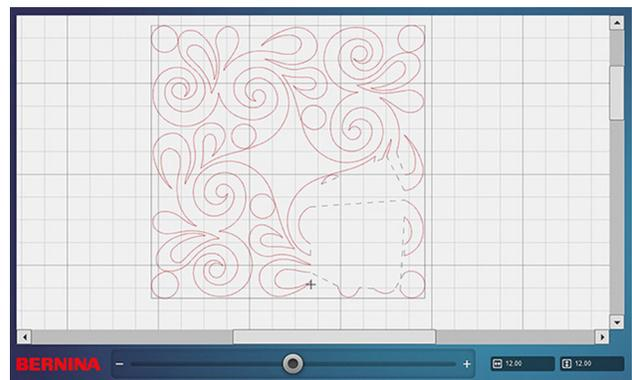

Fig. 23
5. Select Preview (Fig. 23) before confirming with the green checkmark. If changes are needed, select the Preview button to begin again.